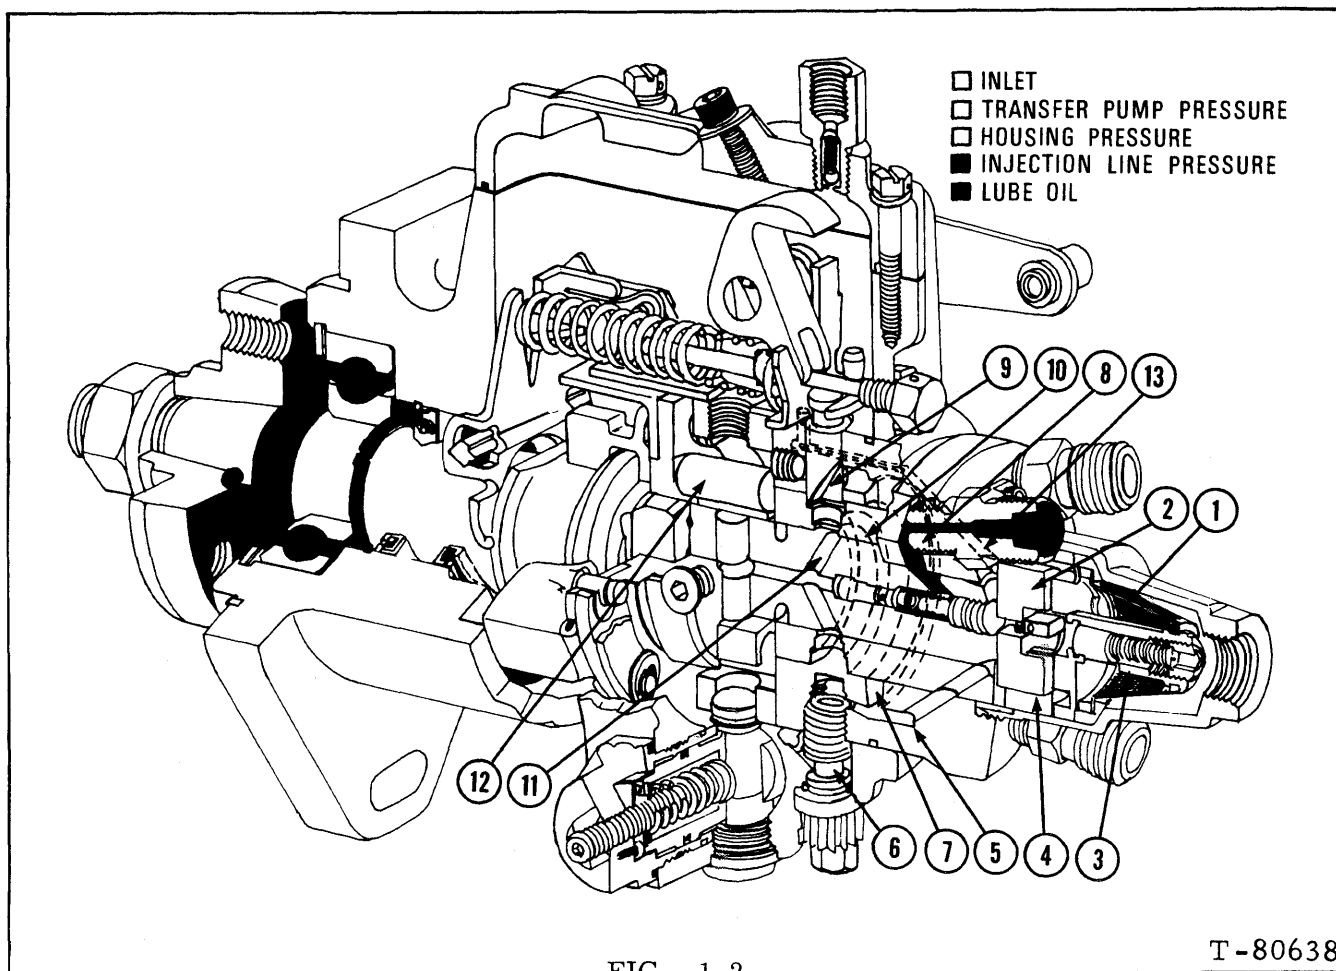
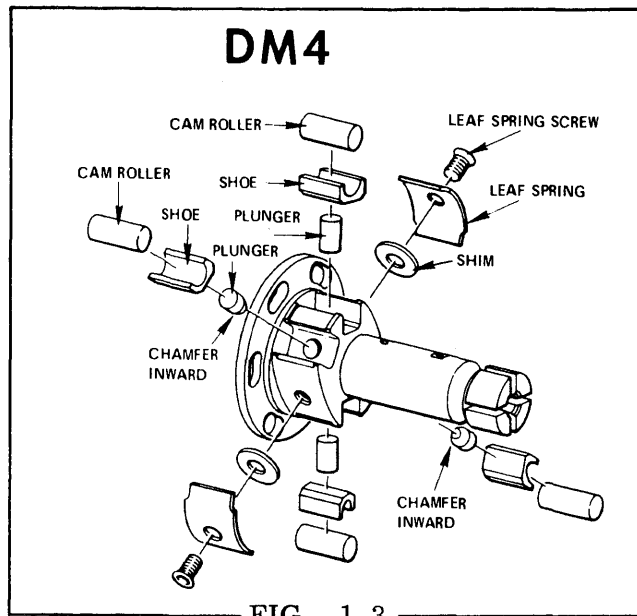
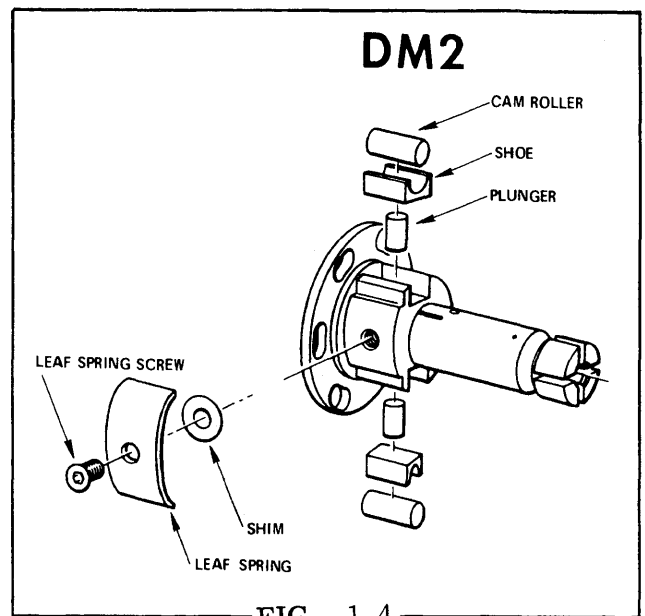

FIG. 1.2
FIG. 1.3
FIG. 1.4
The operating principles of the pump can be understood more readily by following the fuel circuit during a complete pump cycle (Fig. 1.2). The fuel flow for the DM4 (Fig. 1.3) is basically the same as that of the DM2 (Fig. 1.4) with the exception of the charging of two additional plungers. Fuel is drawn from the supply tank through filters into the pump through the inlet filter screen (1) by the vane type fuel transfer pump (2). Some fuel is by-passed through the pressure regulator assembly (3) to the suction side.